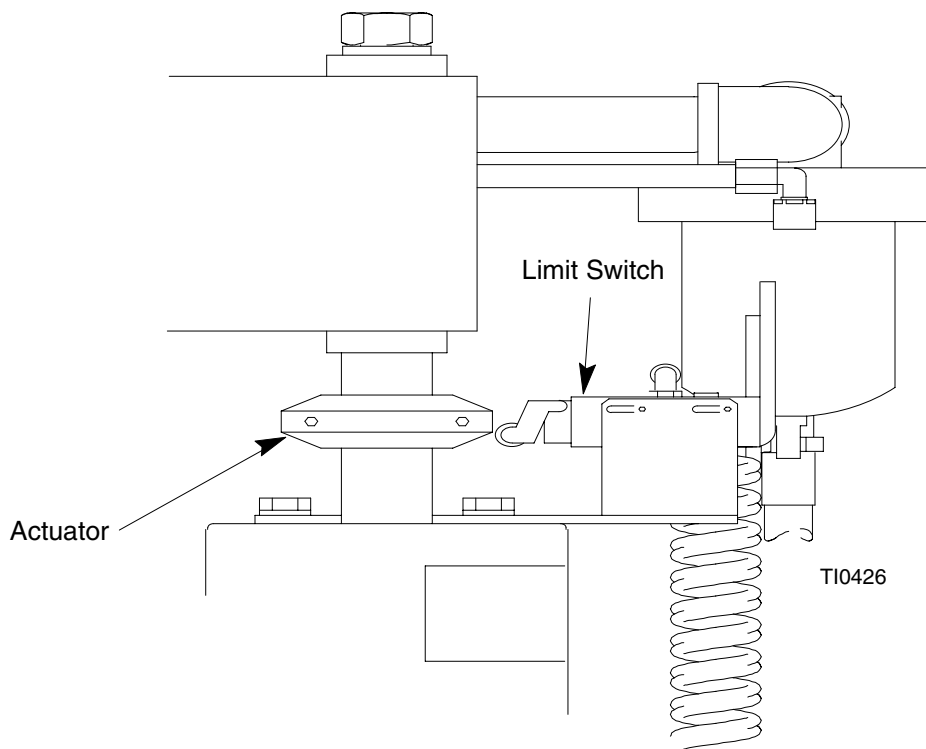

Fig. 14
7. Install the new limit switch (305) on the limit bracket (306) using the fasteners.
9. Make sure that the limit switch roller is positioned in the same location per the measurement in step 5. See Fig. 14.